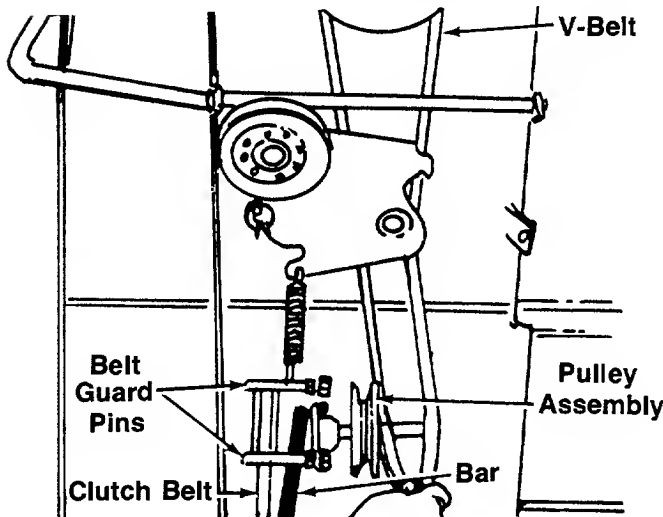

FIGURE 19.
5. Using a bar or large screwdriver, pry the pulley assembly towards the front of the tractor and unhook the belt from the pulley. See figure 19.
4. Remove the two belt guard pins on the pulley assembly. See figure 19.